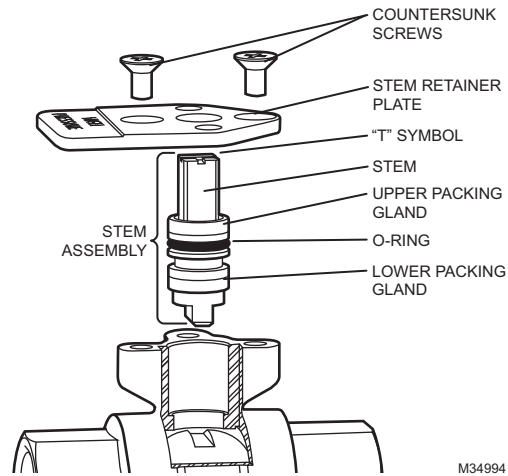

Fig. 34. Replacing the valve stem in-line.
The valve stem can be replaced in-line, if necessary. See Fig. 34.
7. Slide the sub shaft over the stem with the tab oriented as shown in Fig. 34.